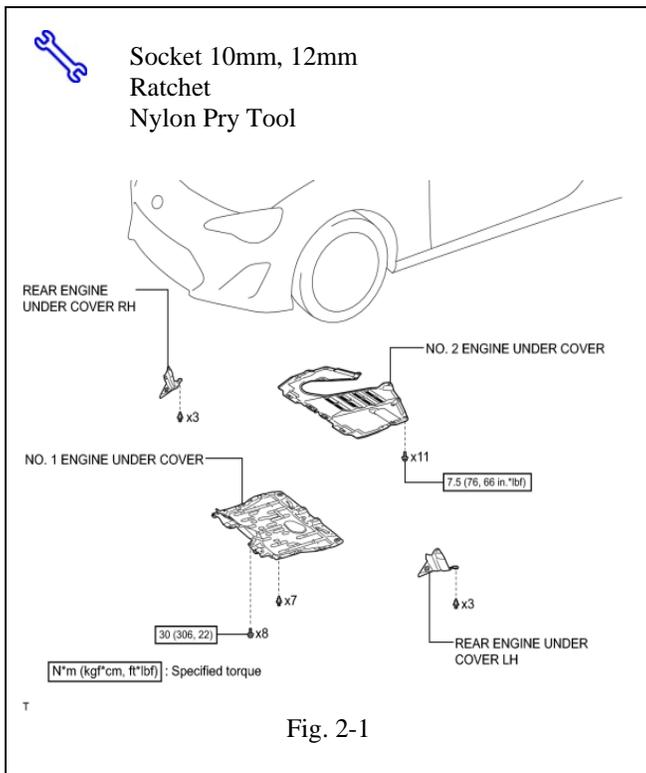

Fig. 2-1
(1) Using a 10mm and a 12mm socket, remove the bolts on the engine under covers and retain for reinstallation (Fig. 2-1).
(2) Using a nylon pry tool, remove the clips and retain for reinstallation (Fig. 2-1).